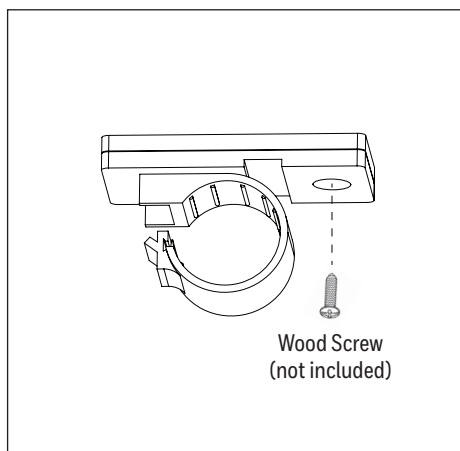

Figure 1.8
8. (Optional) Cord clips have a round hole to accommodate a wood screw (sold separately) as an option to the taping method (Figure 1.8).